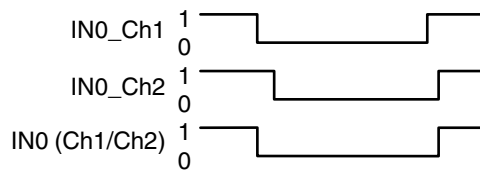
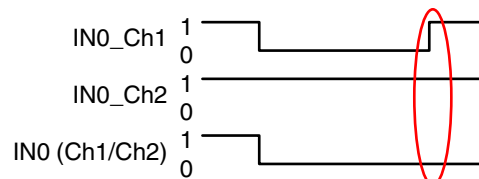

Figure 7-5 Correct signal change
Figure 7-6 Error during signal change
Key for Figure 7-5 and Figure 7-6
In Figure 7-6, the condition that both signals must be in state “0” before the change in state from “0” to “1” is not met. In this case, the diagnostic message is generated.
- “1” if a “1” signal is present at both inputs **and** no error has been detected and the conditions are met for a change in state according to Figure 7-6